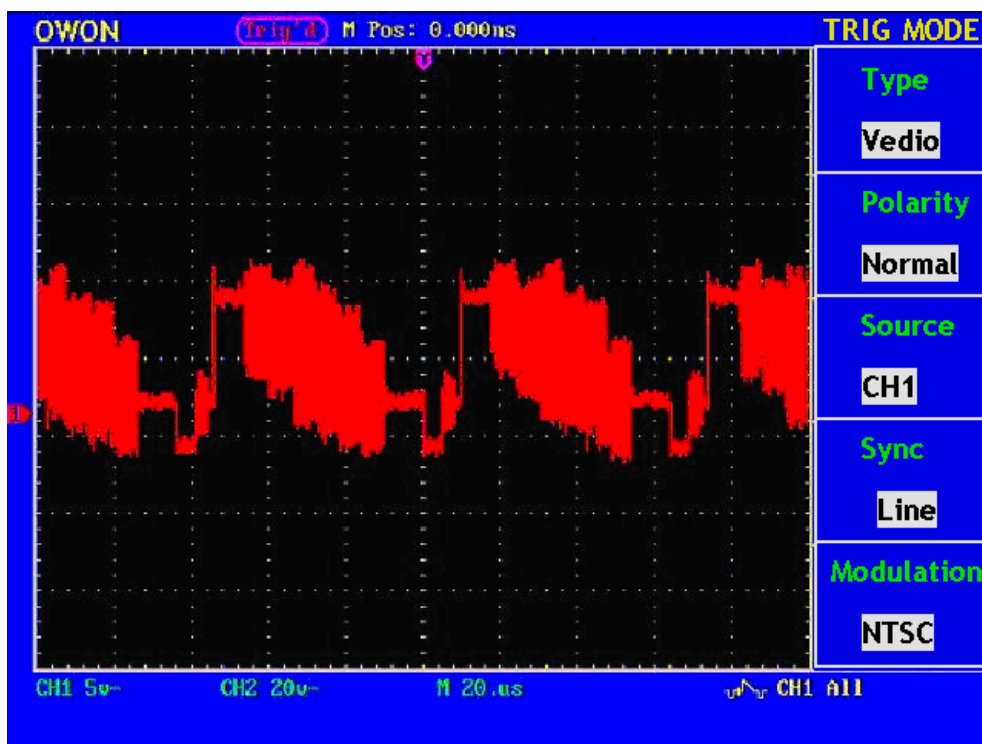

Fig. 38 Video line trigger Oscillogram
- 6、 Press F4 to chose synchronization as “Line” (refer to Fig. 38)